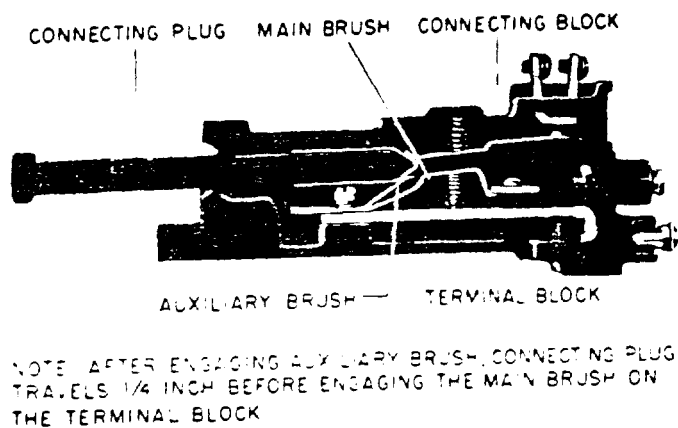

Fig. 3 (8025039) Cross Section of Drawout Case Showing Position of Auxiliary Brush
2. Check the positions of the connection brushes on the cradle block and the case block against internal connection diagram for the relay. Be sure that the shorting bars are in the proper positions on the case block and that the long and short brushes on the cradle block agree with the internal connection diagram. Fig. 3 shows a sectional view of the case and cradle blocks in place. Note that there is an auxiliary brush in each position on the case block. This brush should be bent high enough so that when the connection plug is inserted its contact strips engage the auxiliary brushes before striking the main brush. It is especially important in current circuits and other circuits with shorting bars since an improper adjustment of the auxiliary brush may result in a momentary open circuit.